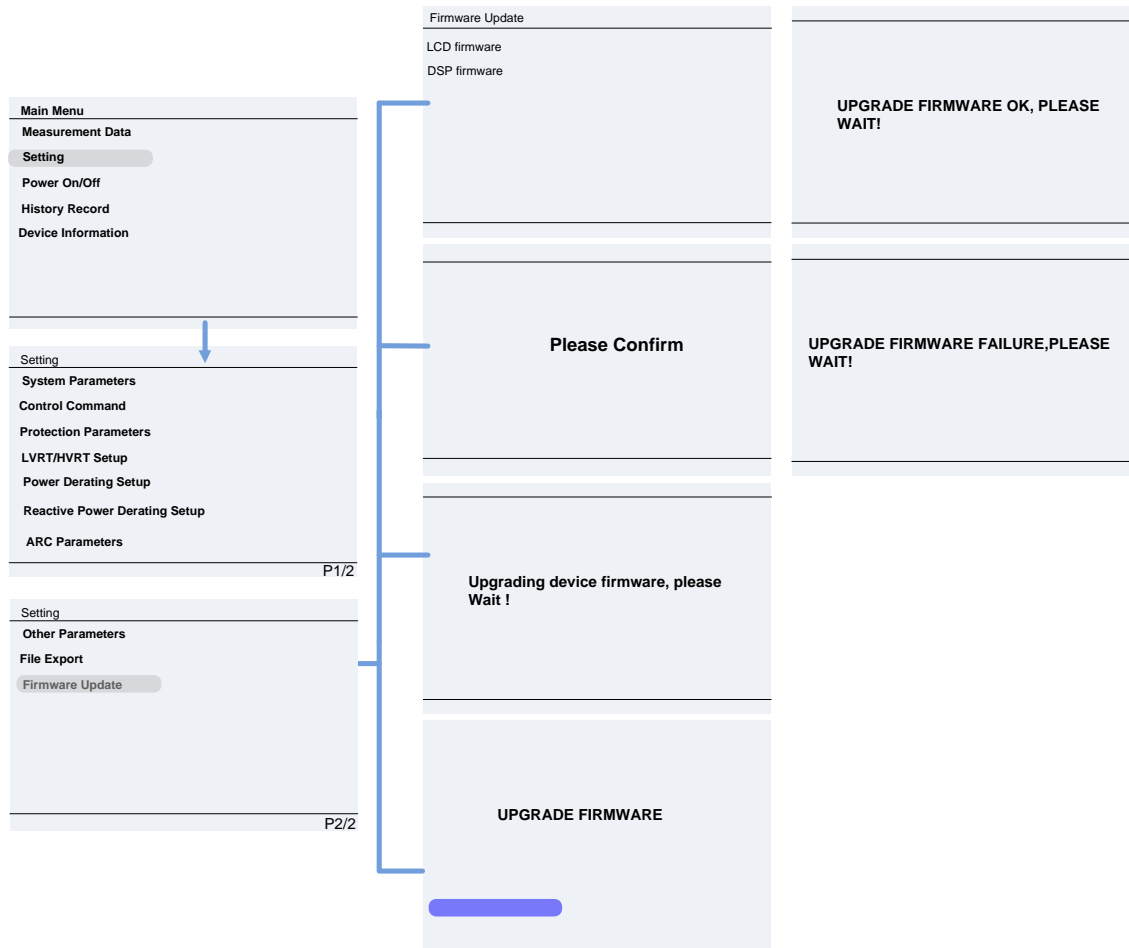

Figure 6-2 Firmware upgrade interface
4. Using the password to enter the **Setting** menu and select **Firmware Update**. Choose the firmware to be updated (LCD or DSP) and follow the prompts on the screen. See figure 6-2.